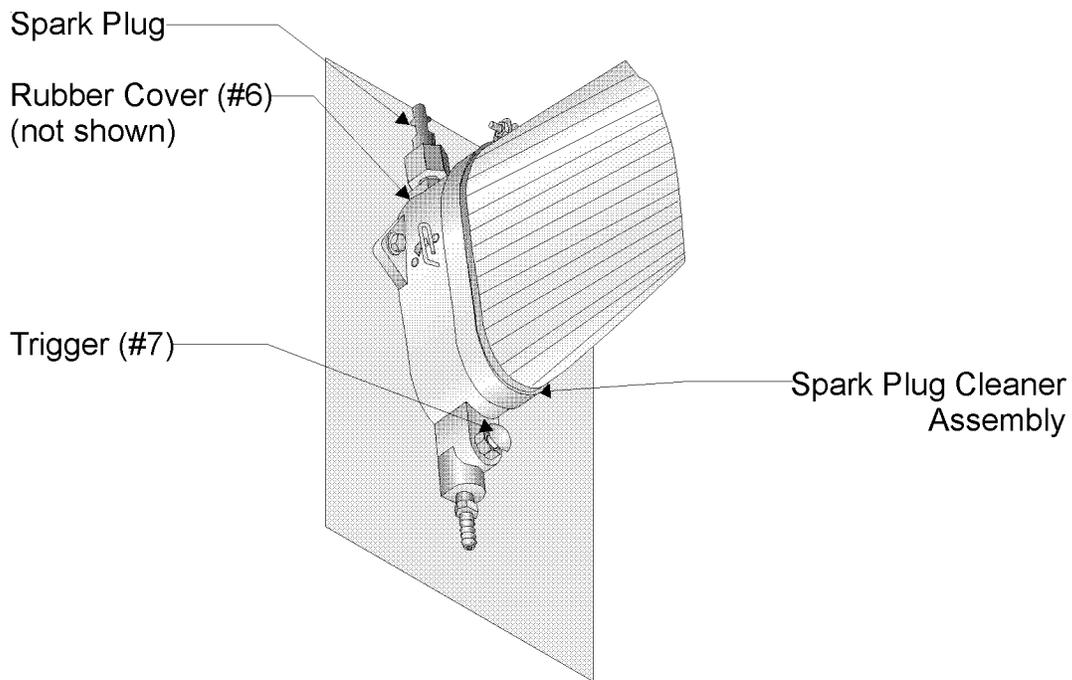

Figure 5 — Operation
- Step 3: Insert the spark plug, electrode side down, into the RUBBER COVER (#6) of the Spark Plug Cleaner as shown in Figure 5.